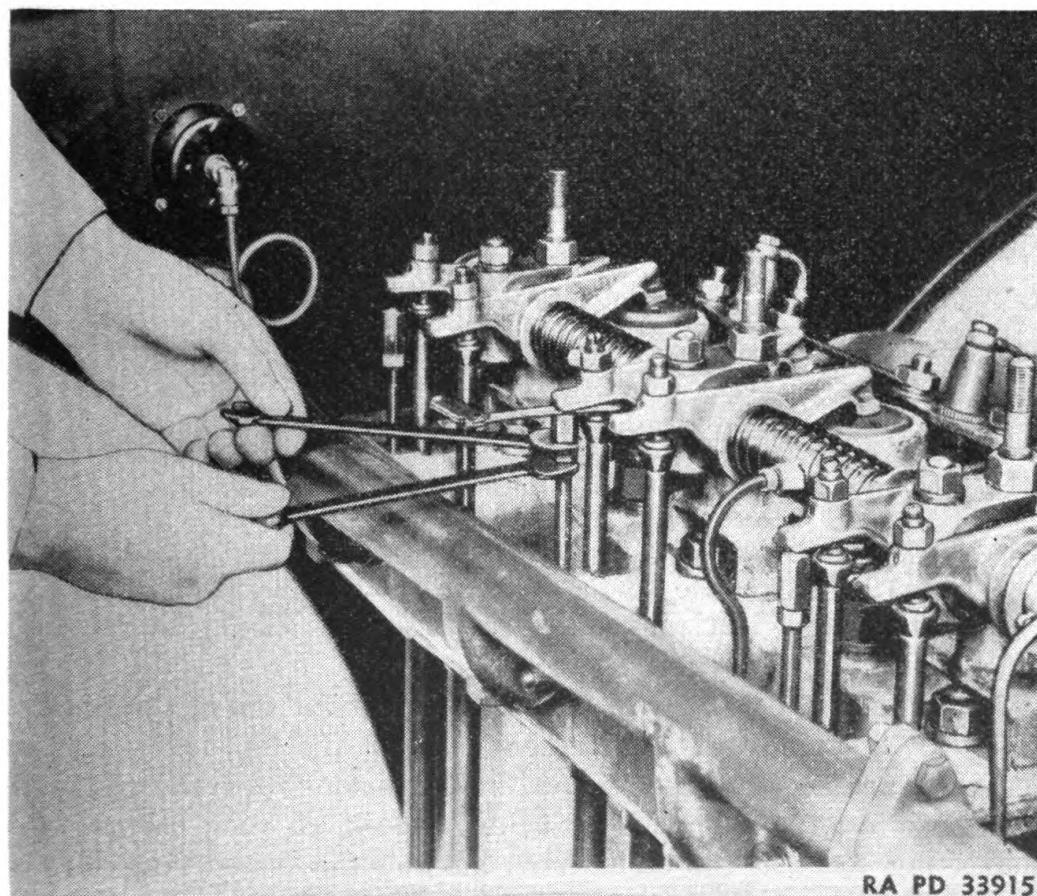

FIGURE 26.—Compression release adjustment.
- (1) Adjust valves in the firing order of engine.
- (2) Crank engine in the direction of normal rotation until the inlet valve closes, then give the engine one-third additional turn and adjust both valves at the same time.
- (3) Loosen valve adjusting screw nut on valve rocker.
- (4) Turn screw to obtain correct clearance between the top of the valve sleeve and the end of the valve rocker.
- (5) Set this clearance for the exhaust and inlet valves at .012 inch.
- (6) Recheck adjustment after adjusting screw nut is tightened.
g. Compression release adjustment.—After adjusting the exhaust valve clearance and while the release lever is still in the "run" position, check clearance between the upper end of compression release push rod (fig. 26) and the tail of the valve rocker. This clearance should be .025 inch to .030 inch. To adjust the compression release, loosen lock nut on compression release push rod and turn adjusting nut until the correct clearance is obtained. Recheck adjustment after lock nut is tightened. Check this clearance every time the exhaust valve clearance is changed or checked.